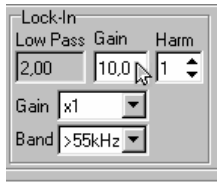
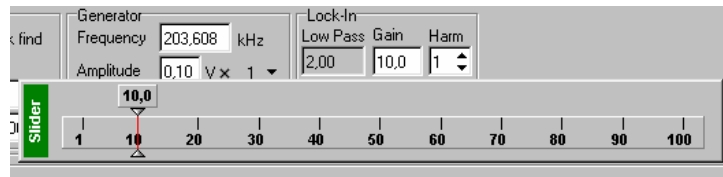

Fig. 4-8
Fig. 4-9
- Double click in the Gain enter field (Fig. 4-8); as a result a slider would be opened (Fig. 4-9)